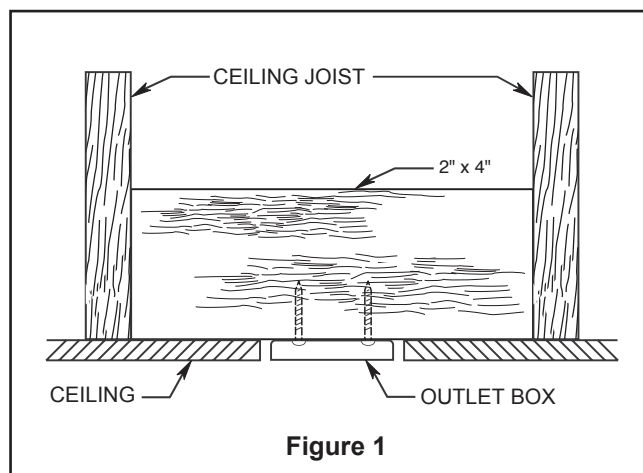
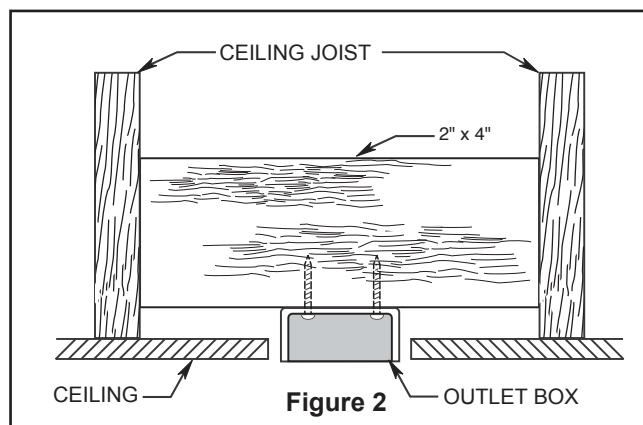
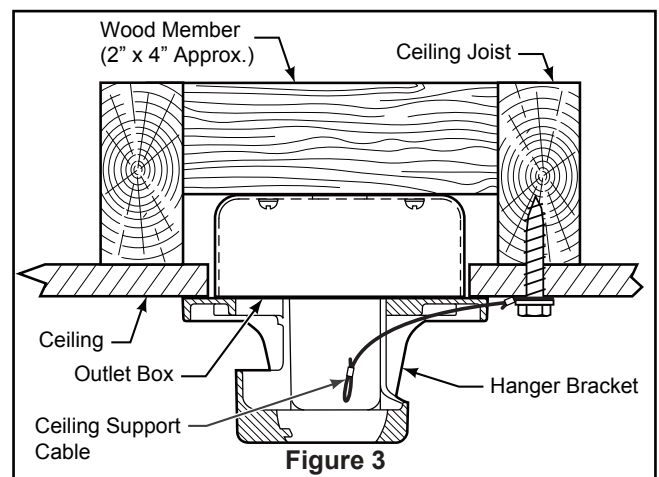

Figure 1
Figure 2
Figure 3
Your new ceiling fan will require a grounded electrical supply line of 120 volts AC, 60 HZ, 15 Amp Circuit. Electrical code requires use of a fan-rated outlet box to support the extra weight and motion associated with a ceiling fan. A fan-rated box will be labeled as such and typically supports up to a 70lb ceiling fan. Fan-Rated Outlet Boxes vary in ratings and design. Ensure the ratings of your ceiling fan outlet box meet the requirements for the ceiling fan being installed. Figure 1, Figure 2 and Figure 3 depicts different structural configurations that may be used for mounting the outlet box.
Low profile box (Figure 1)
Deep box (Figure 2)
Deep box with brace (Figure 3)
3. Loosen the two set screws and locking nuts in the downrod support of the motor assembly. Route the black, white and blue wires and safety cable through the downrod. (Figure 3)
1. Securely attach the hanger bracket to the outlet box using the outlet box screws and washers supplied with the outlet box. (Figure 3)
2. Drill a 1/4" pilot hole into the building structure to prevent splitting or cracking with installation of the lag bolt. Using the 3/8" x 2" lag bolt and flat washer, attach safety cable to ceiling joist or wood structural member. The lag bolt will pass through the flat washer, safety cable loop, and into the building structure. (Figure 3) **NOTE:** Ceiling support cable cannot be secured to outlet box only, it must be directly secured to ceiling joist or structural member using the 3/8" x 2" lag bolt and flat washer. (Figure 3)
2. Slide the receiver into the hanger bracket before wiring as shown in figure 3.
3. Remove one of the three screws in the switch housing assembly. Retain the screw for later and slightly loosen the remaining two screws. (Figure 3)
- 3. To make fan operational, install 23A/12V battery (included) in hand-held remote transmitter, with fan power off. Then follow the remote code setting process. (If not used for long periods of time, remove battery to prevent damage to transmitter). Store the remote away from excessive heat or humidity. (Figure 3)